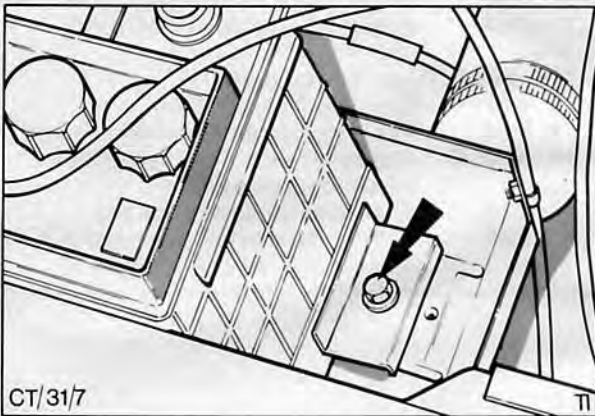

Fig. 7. Battery clamp bolt
3. Remove battery clamp bolt, Fig. 7. clamp and battery.